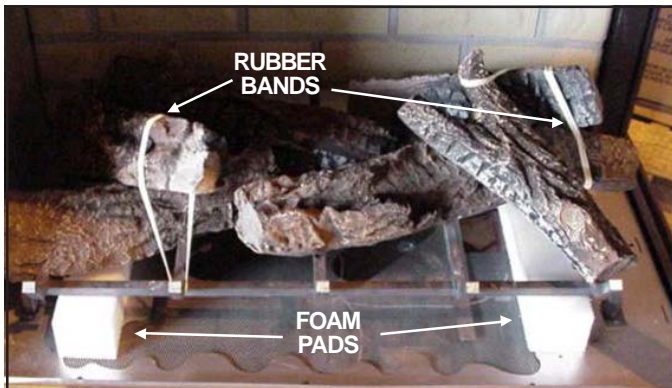

Figure 46.
- Remove the rubber bands from the log set (see Figure 46).